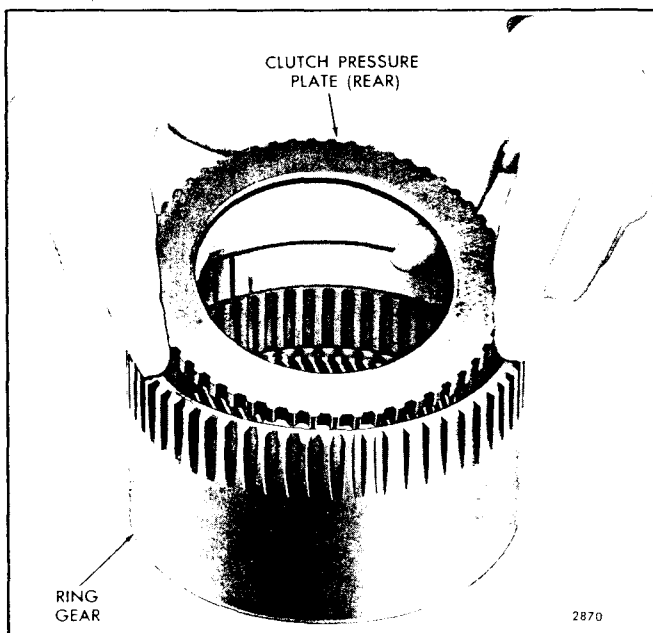

Fig. 53 - Installing Rear (Forward) Clutch Pressure Plate in Ring Gear
- b. Install the rear clutch pressure plate inside the planetary ring gear with the smooth flat face side facing up as shown in Fig. 53. Align the teeth on the pressure plate with the internal teeth in the ring gear; then, lower the pressure plate straight into the ring gear until it seats squarely on the shoulder inside the ring gear.